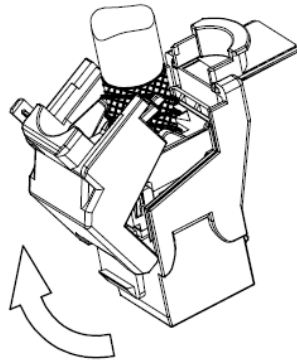

Fig. 12
- 2) Close the jaw until it clicks into place (Fig 12)